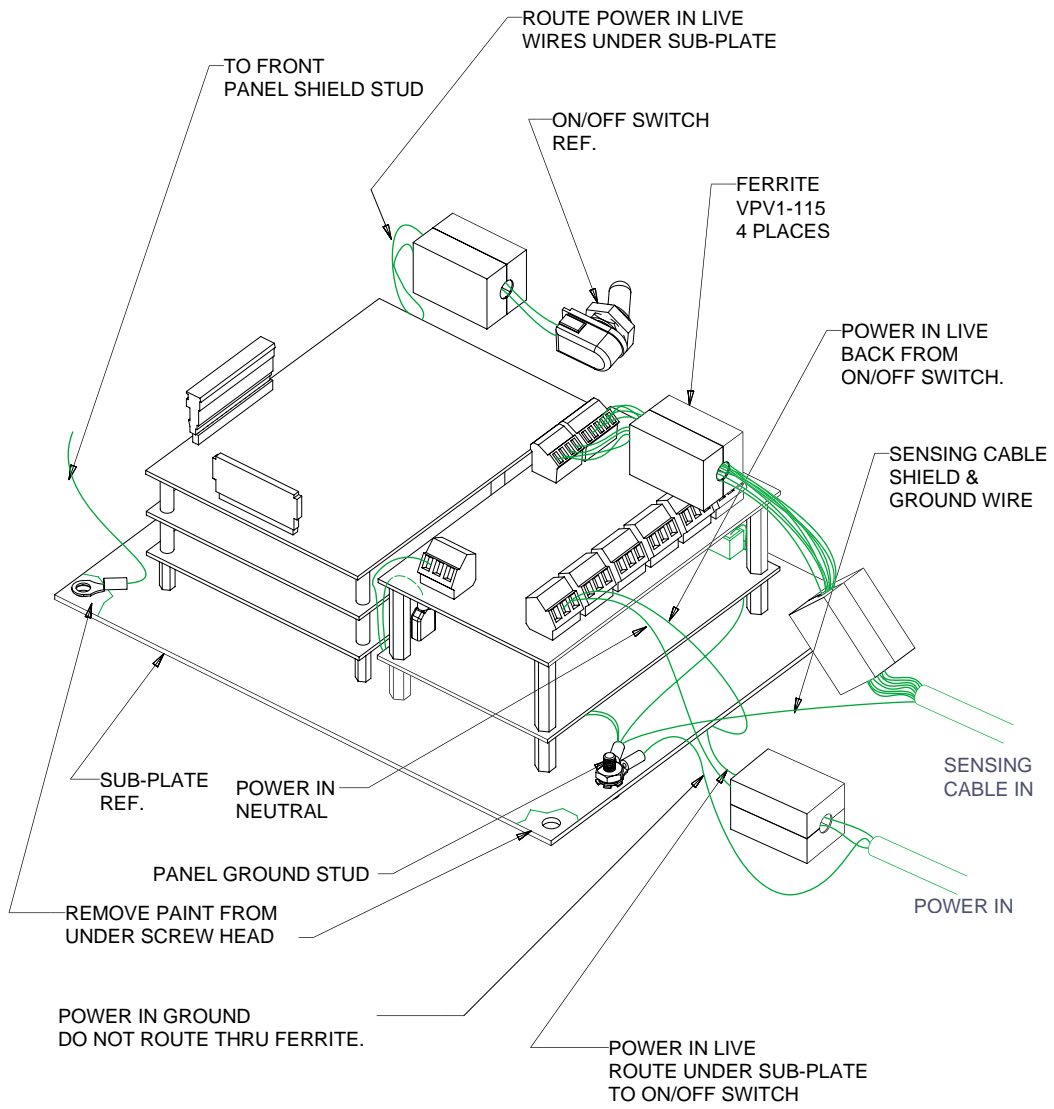

Figure 2-10: Ferrite installation and grounding detail. Components shown are located inside of the AST control box.
NOTE: The Earth terminal is not used. The ground wire from the input power cable must be connected to the panel ground stud shown in Figure 2-10.
NOTE: The "E" (Earth) terminal is not to be used. Bring the valve ground wire to the panel ground stud shown in Figure 2-10.
There are eight wires and a Sensing Cable Ground/Shield coming from the Viscosity Sensor to the Controller. The screw terminals for connecting the sensor to the Terminal can be found at location A7 through A8. The terminals are labeled "RTD" and "PROBE". Figure 2-10 shows the connections. The Sensing Cable Ground/Shield must be terminated to the Panel Ground Stud shown in Figure 2-10.
NOTE: The system is supplied with (2) ferrites shipped loose (BEL Part No. VPV-115). These ferrites must be installed over the probe sensing cable inside the controller box as shown in Figure 2-10.
NOTE: If this relay is wired to a secondary device such as a light or valve, do not connect the device's ground wire directly to the "Out2" terminal block. Connect the ground wire to the panel ground stud shown in Figure 2-10.
NOTE: Power In cord may be removed and power may be brought directly into the terminal board located inside of the controller enclosure. The earth ground wire of the power cable must be terminated at the panel ground stud located inside the controller box as shown in Figure 2-10. All grounding wires that are brought into the controller must be terminated to the panel ground stud shown in Figure 2-10.